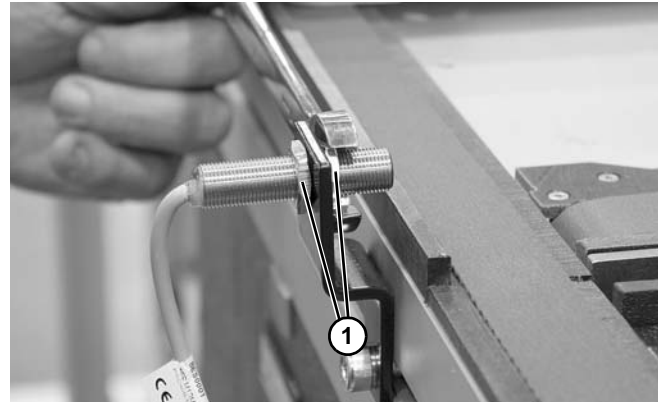
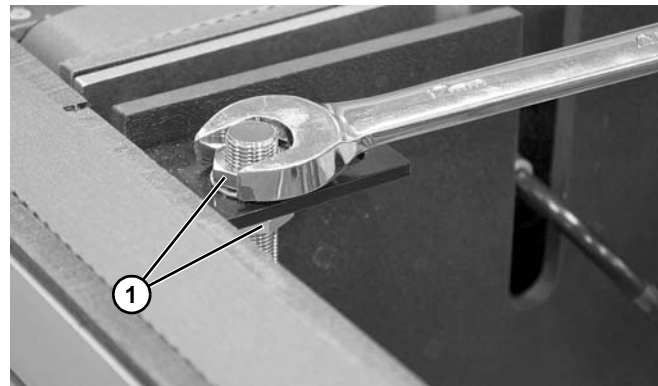

**Figure 9**
**Figure 10**
2. Install bottom mount bracket (**Figure 9, item 1**) and/or side mount bracket (**Figure 10, item 1**) with socket head screw (**Figure 9, item 2**) or (**Figure 10, item 2**).